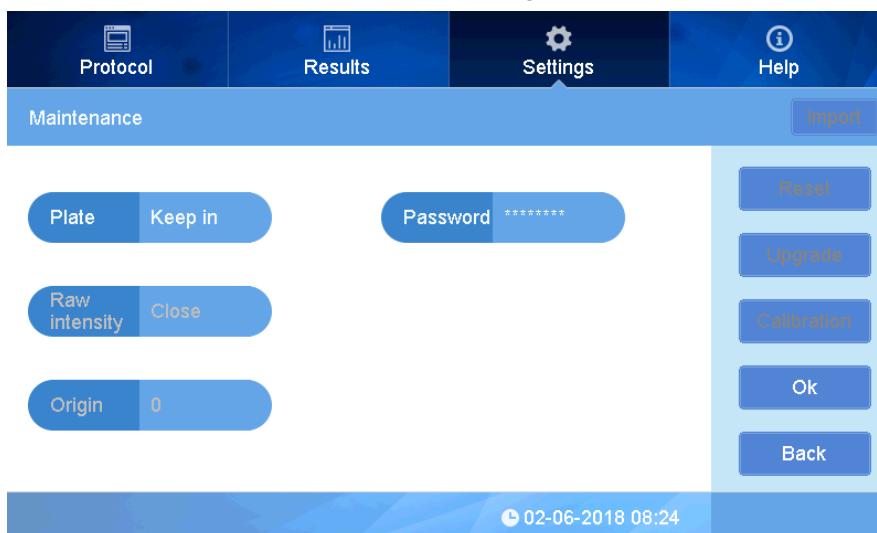

Fig 50
- ① Click “Maintenance” to enter into the interface (Fig 50).